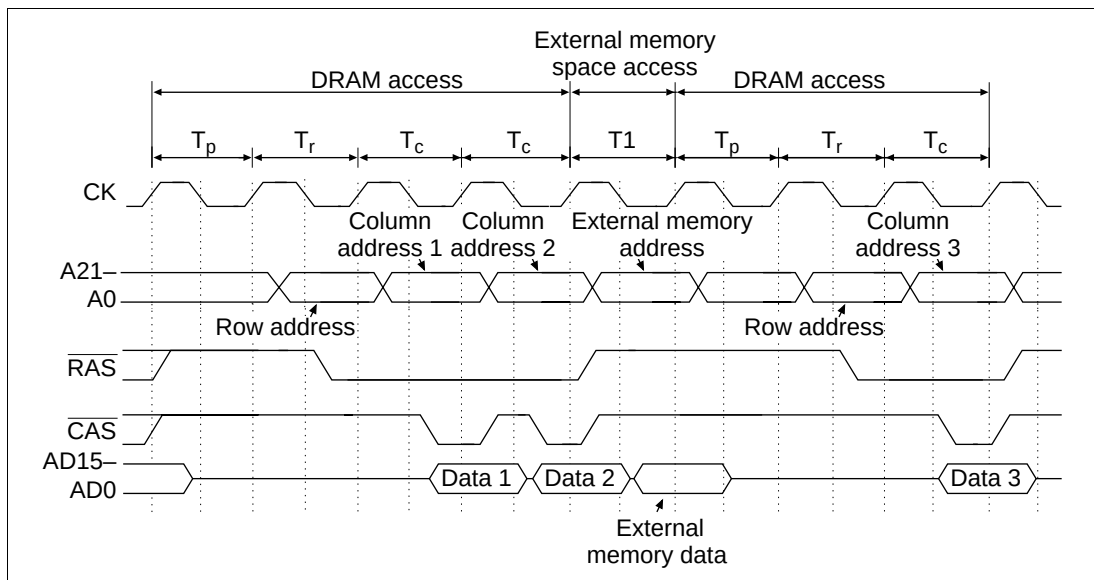

**Figure 8.28 RAS Up Mode**
- **RAS up mode:** When the RASD bit is cleared to 0, the  $\overline{\text{RAS}}$  signal reverts to high whenever a DRAM access pauses for access to another space. Burst operation continues only while DRAM access is continuous. Figure 8.28 shows the timing when an external memory space access occurs during burst operation in RAS up mode.